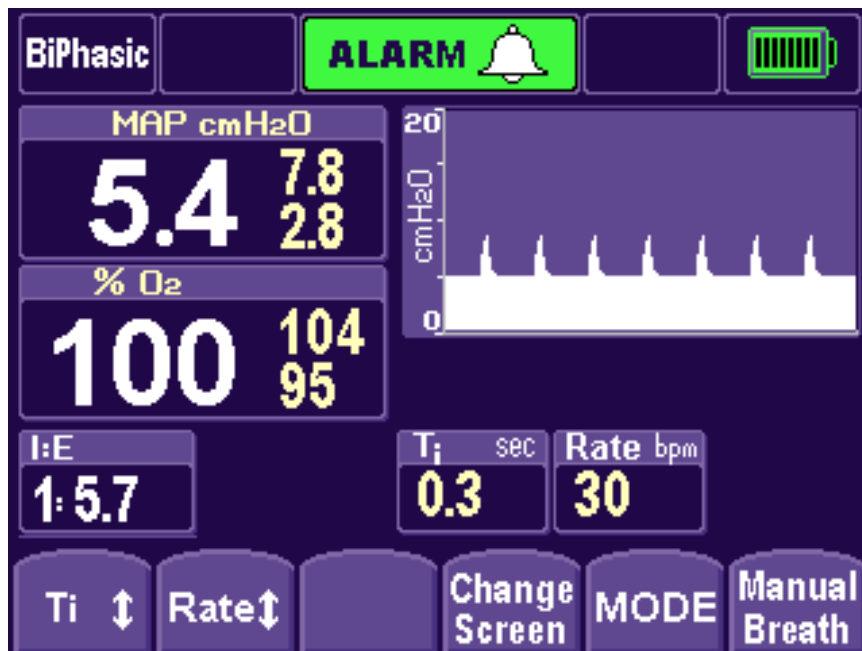

Figure 5
11. Verify that the measured value doesn't exceed 23% FiO₂. If so, then troubleshoot for an oxygen leak. Check all the fittings and connections and repeat the Oxygen Leak Test (Figure 5).